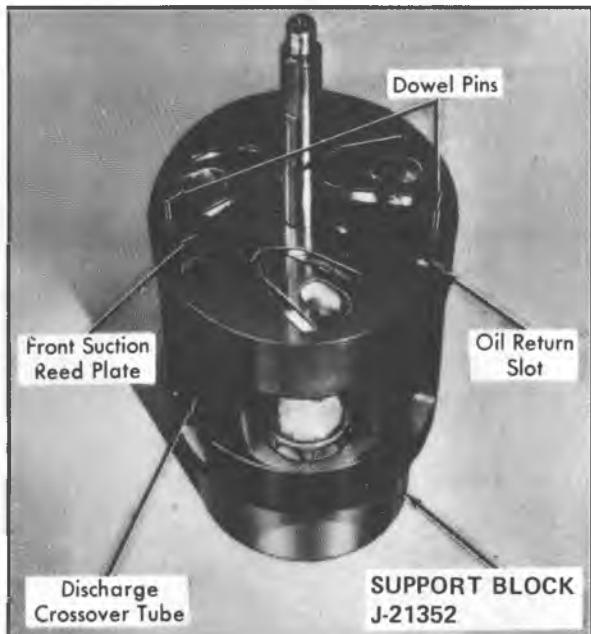

Fig. 57--Installing Front Suction Reed
4. Install front suction reed plate on front cylinder half. Align with dowel pins, suction ports, oil return slot, and discharge cross-over tube (Fig. 57).